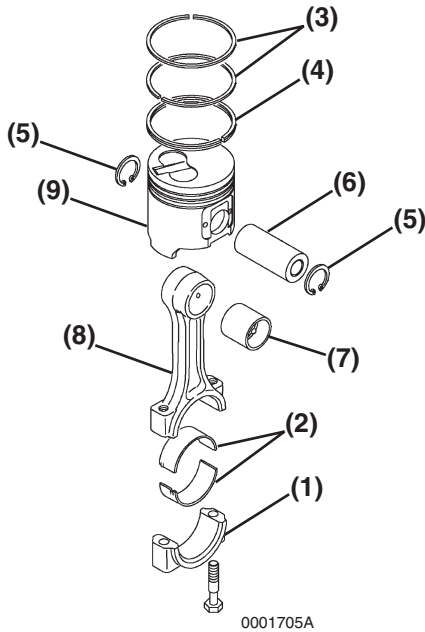

Figure 6-83
2. If removed, install a new wrist pin bushing (**Figure 6-83, (7)**) using a press and the appropriate service tool. Be sure to align the oil holes.
3. Reinstall one circlip (**Figure 6-83, (5)**) into the piston. Ensure the circlip is securely seated in the groove.